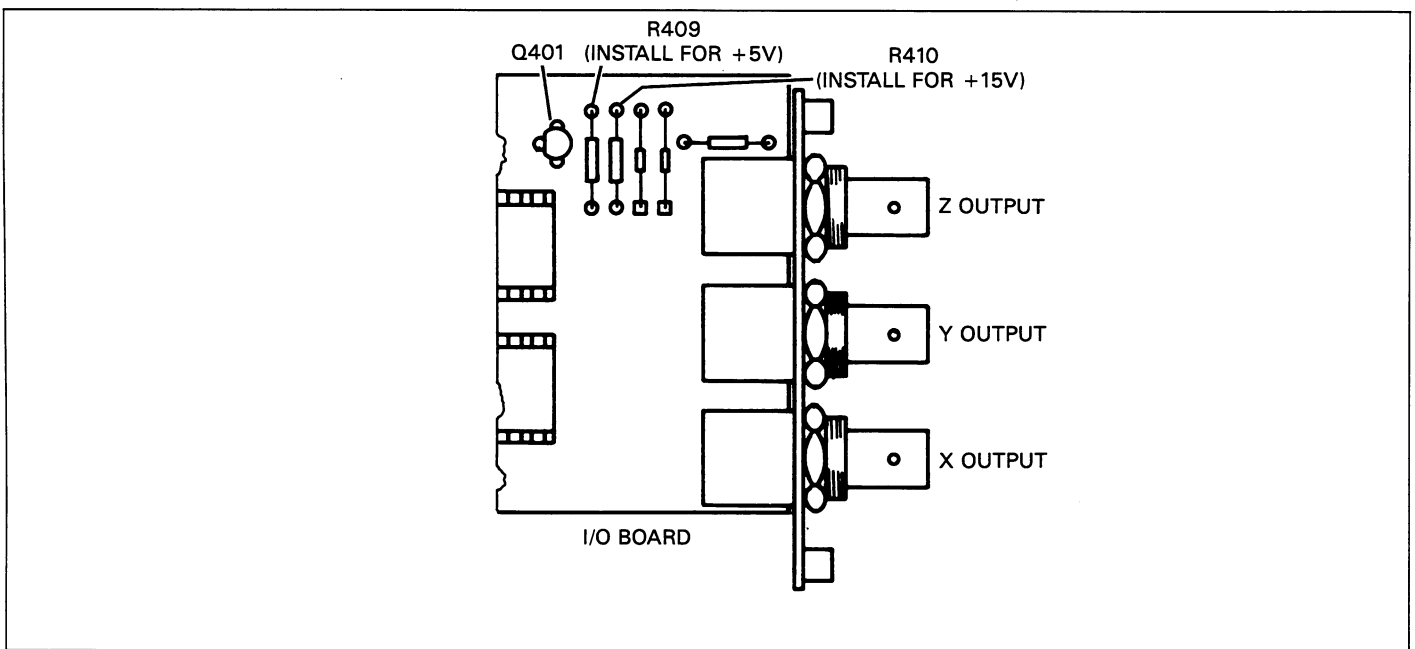

Figure 7-17. Z Output Blanking Level Programming
2. Install the correct pull-up resistor at location R409 (+5V) or R410 (+15V). Figure 7-17 shows the location of these two resistors on the I/O board, while Table 7-17 lists nominal, maximum, and minimum values. The nominal 910Ω value for +5V is recommended for compatibility with TTL circuits.